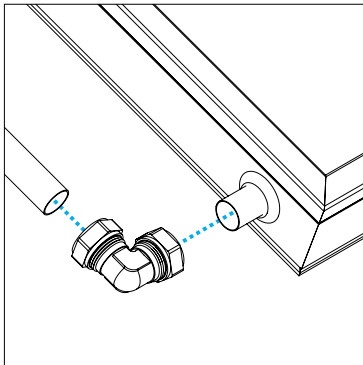

Figure 13. Cold pipe (open circuit)
- **Open Circuit System** – see *Figure 13*